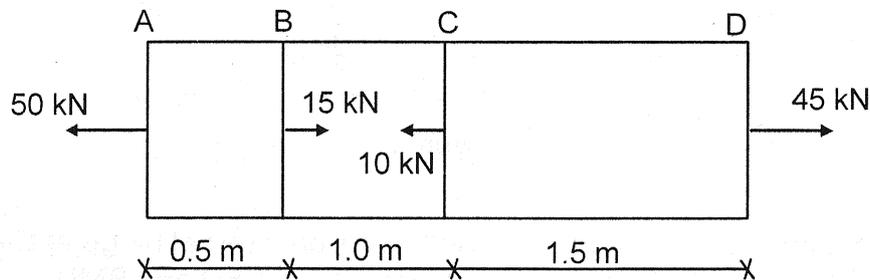

Figure 1
- b) Draw the stress-strain curve for mild steel, and give the name to important points on graph. Also determine the total elongation of bar having cross sectional area of 500 mm^2 is as shown in figure 1. 8